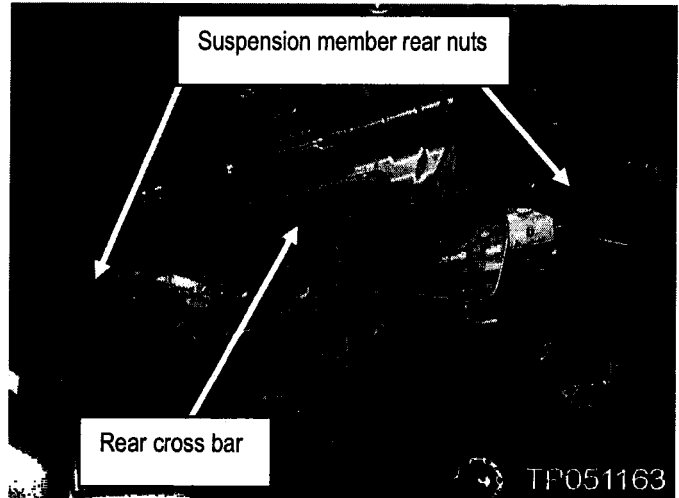

Figure 34
28. Remove the rear cross bar and suspension member rear nuts (see Figure 34).